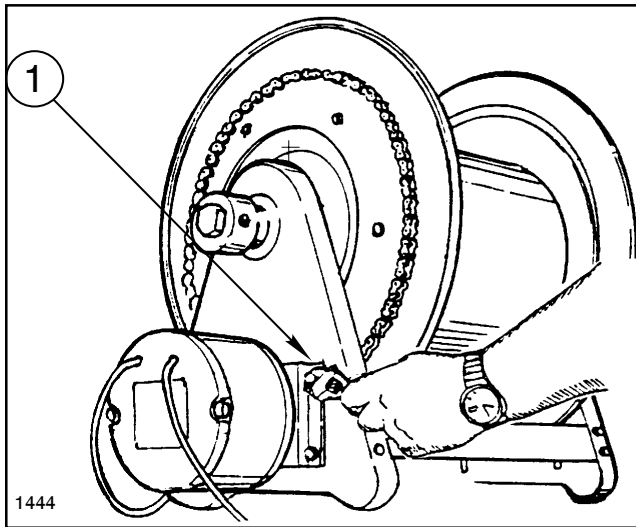

FIG. 3
1. Loosen (do not remove) the (4) bolts which hold the motor mounting bracket to the reel. See FIG. 3.
2. Loosen (do not remove) the (4) bolts which hold the motor mounting bracket to the reel. See FIG. 3.
3. Remove the (4) #10 x 1/2" screws, washers, and nuts that secure the cover plate on the electric box assembly.
5. Remove the (4) 5/16" x 1/2" hex hd cap screws and nuts securing motor mounting bracket and motor to hose reel. Remove bracket and motor. See FIG. 3.
6. Remove the (4) 5/16" x 1/2" hex hd cap screws and flat washers securing the motor mounting bracket to motor. Remove motor.
7. Loosen the (2) set screws on the motor sprocket and remove sprocket and key from motor shaft.
8. Install sprocket and key earlier removed on new motor shaft and secure by tightening the (2) set screws securely.
9. Attach motor mounting bracket to motor using the (4) 5/16" x 1/2" hex hd cap screws and flat washers. Tighten fasteners securely.